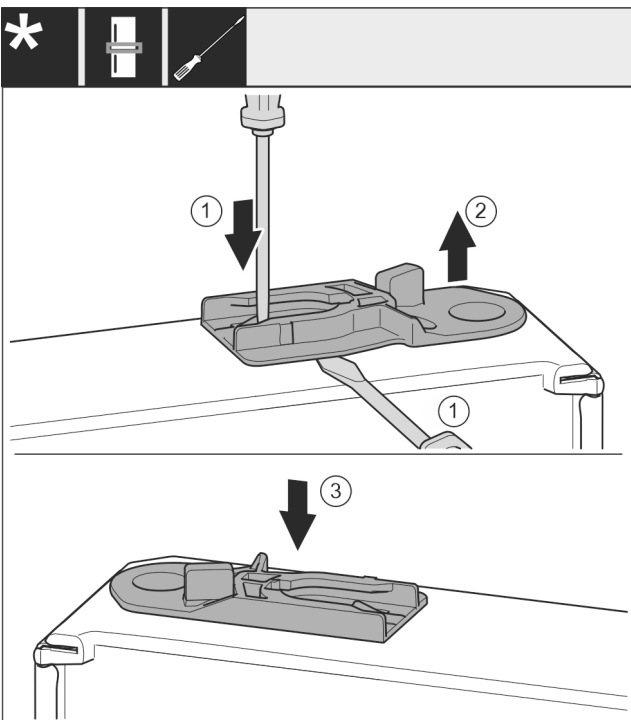

Fig. 28
- ▶ Appliances with closing damper: Pull out the guide bush: Press the tab *Fig. 28 (1)* with a flat-blade screwdriver and at the same time move the flat-blade screwdriver under the guide bush *Fig. 28 (2)*.
- ▶ Appliances with closing damper: Insert the guide bush *Fig. 28 (3)* supplied on the other side of the housing.